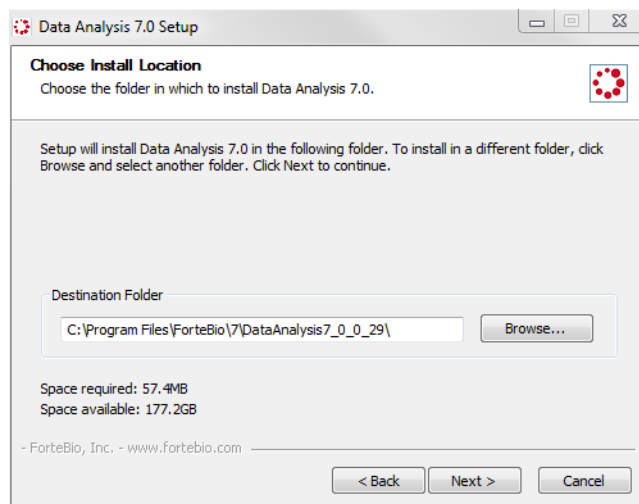

Figure B-6: Choose Install Location Dialog Box
4. Click **Next** to display the Choose Install Location dialog box (Figure B-6).